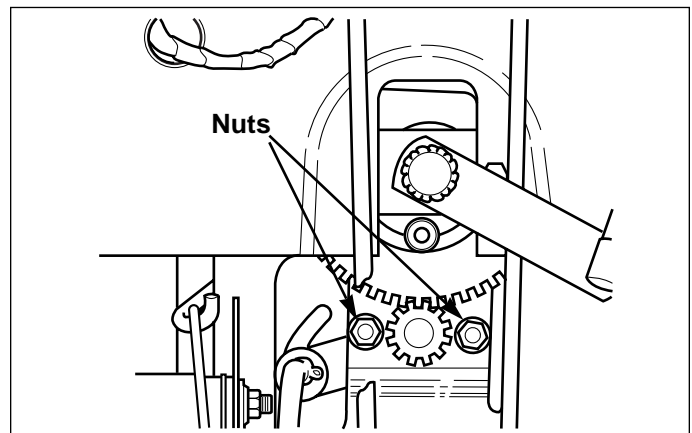

Figure 27. Steering Gear Adjustment
1. See Figure 27. Loosen the two nuts and adjust the bracket so the gear teeth are closely meshed.